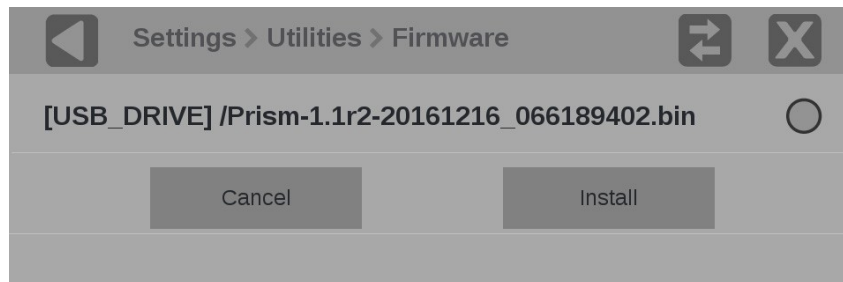

Figure 23: Selecting the firmware upgrade file
7. While the upgrade is in process, the message box shown in Figure 23 appears stating that the firmware installation is in progress.